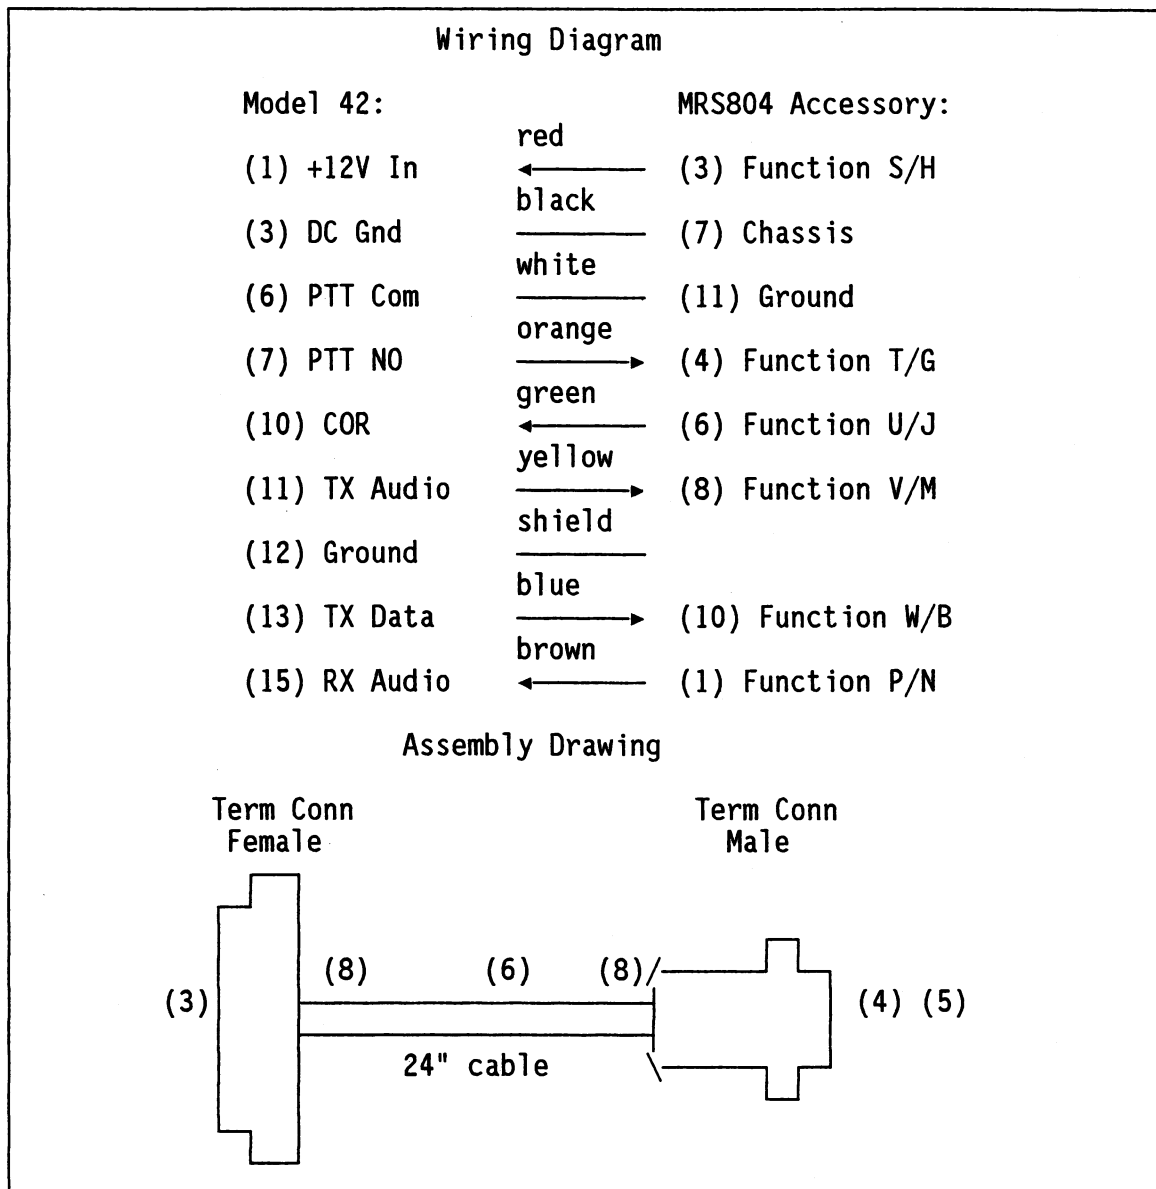
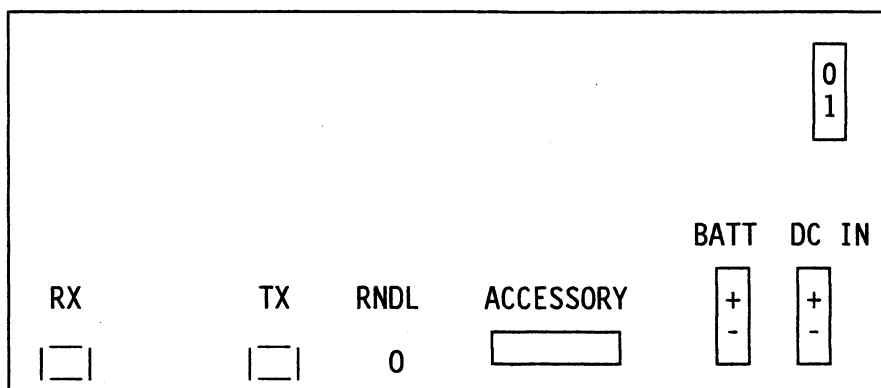

Figure 4-23. Model 42 to Uniden MRS804 Repeater Cable (P/N 709-7132)
Figure 4-24. Uniden MRS804 Rear Panel
- []13. Connect the Model 42 to the MRS804 Accessory connector with the repeater cable (709-7132), which was included in the Zetron MRS804 Cable Kit (815-9112). Refer to Figure 4-23 for cable wiring and to Figure 4-24 for the location of the accessory connector.